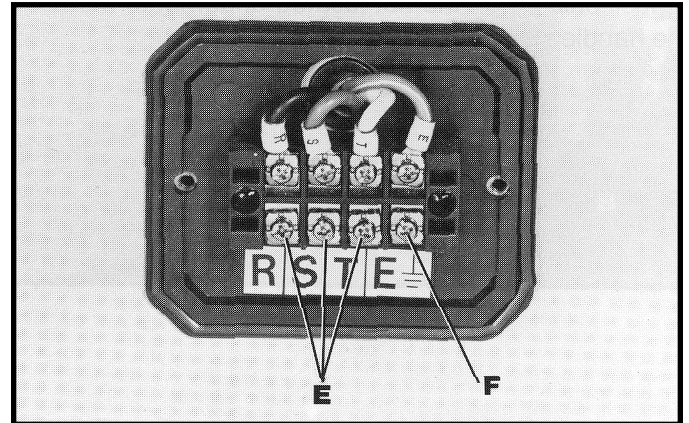

Fig. 38B
4. Connect the three power lines to terminals R, S and T, shown at (E) Fig. 38B, and the green ground wire to ground terminal (F).